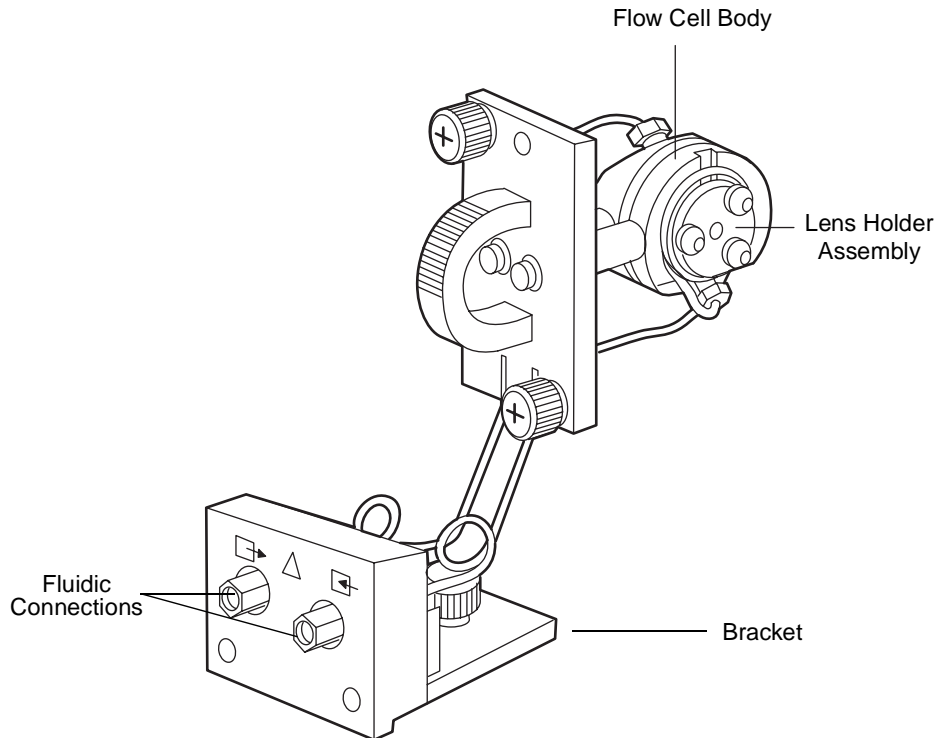

Figure 3-3 Flow Cell and Fluidic Connections Assemblies
7. Pull the flow cell assembly and fluidic connection bracket gently toward you to remove it from the detector (Figure 3-3).
1. While you hold the flow cell assembly in a vertical orientation (see Figure 3-3), insert the assembly into the optics bench. Note that the flow cell is self-aligning and uses the guide pins on the optics bench.